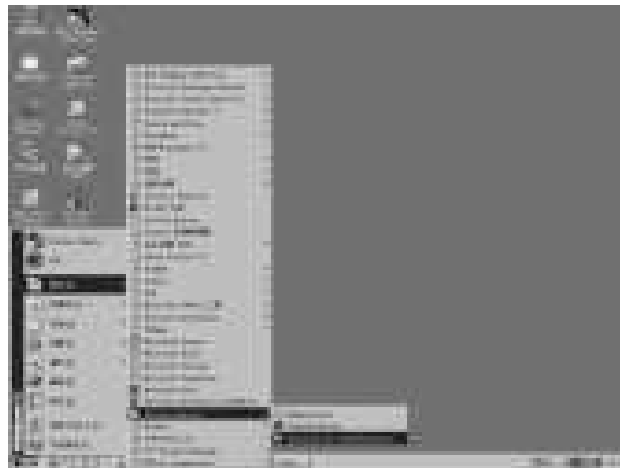

Fig. 1.10 Uninstallation Window
9. When the automated installation process is completed, the Setup Finish Window appears, as shown in Fig.1.10. Click FINISH to complete the installation process.
- Click UNINSTALL under the said program folder with the left mouse button, as shown in Fig. 1.10;